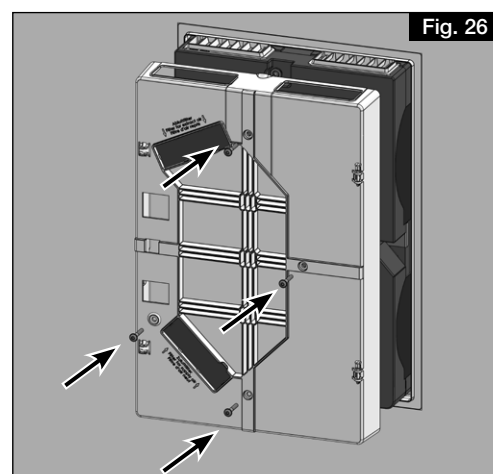

Fig. 26
8. Fasten the panel frame to the unit housing using four screws (see Fig. 26).